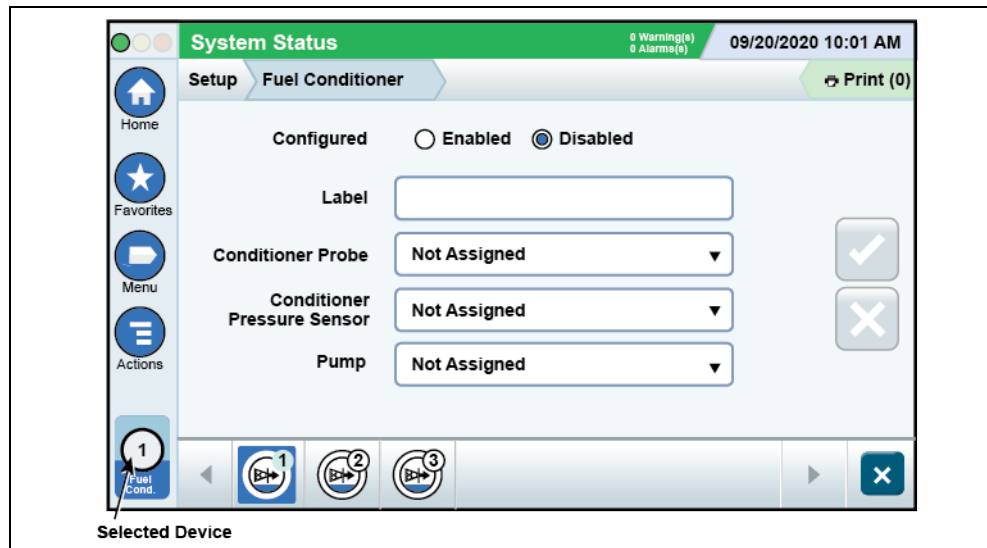

Figure 37. TLS-4xx Fuel Conditioner Setup Screen
1. Touch **Menu>Setup>Fuel Conditioner** to display the Fuel Conditioner Setup screen (see Figure 37)